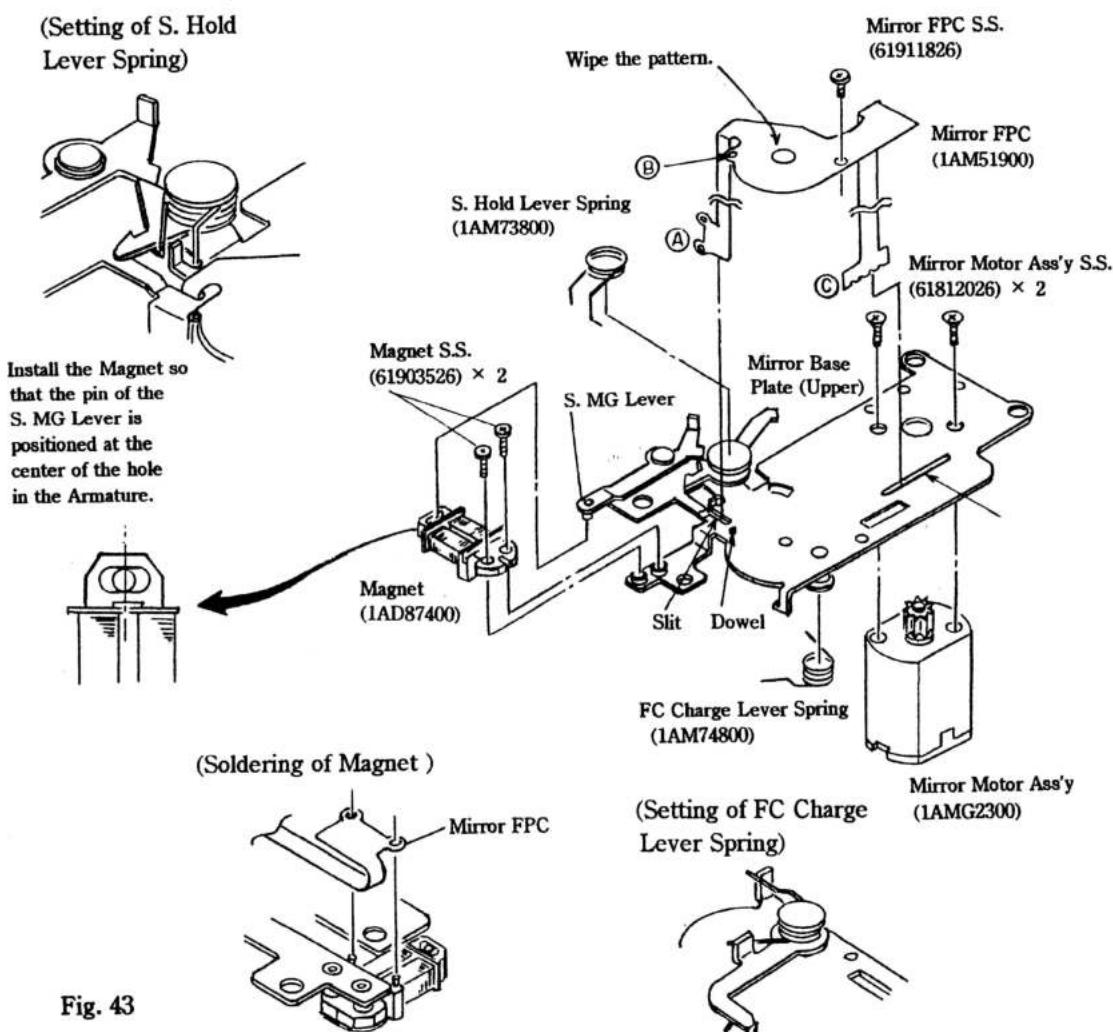
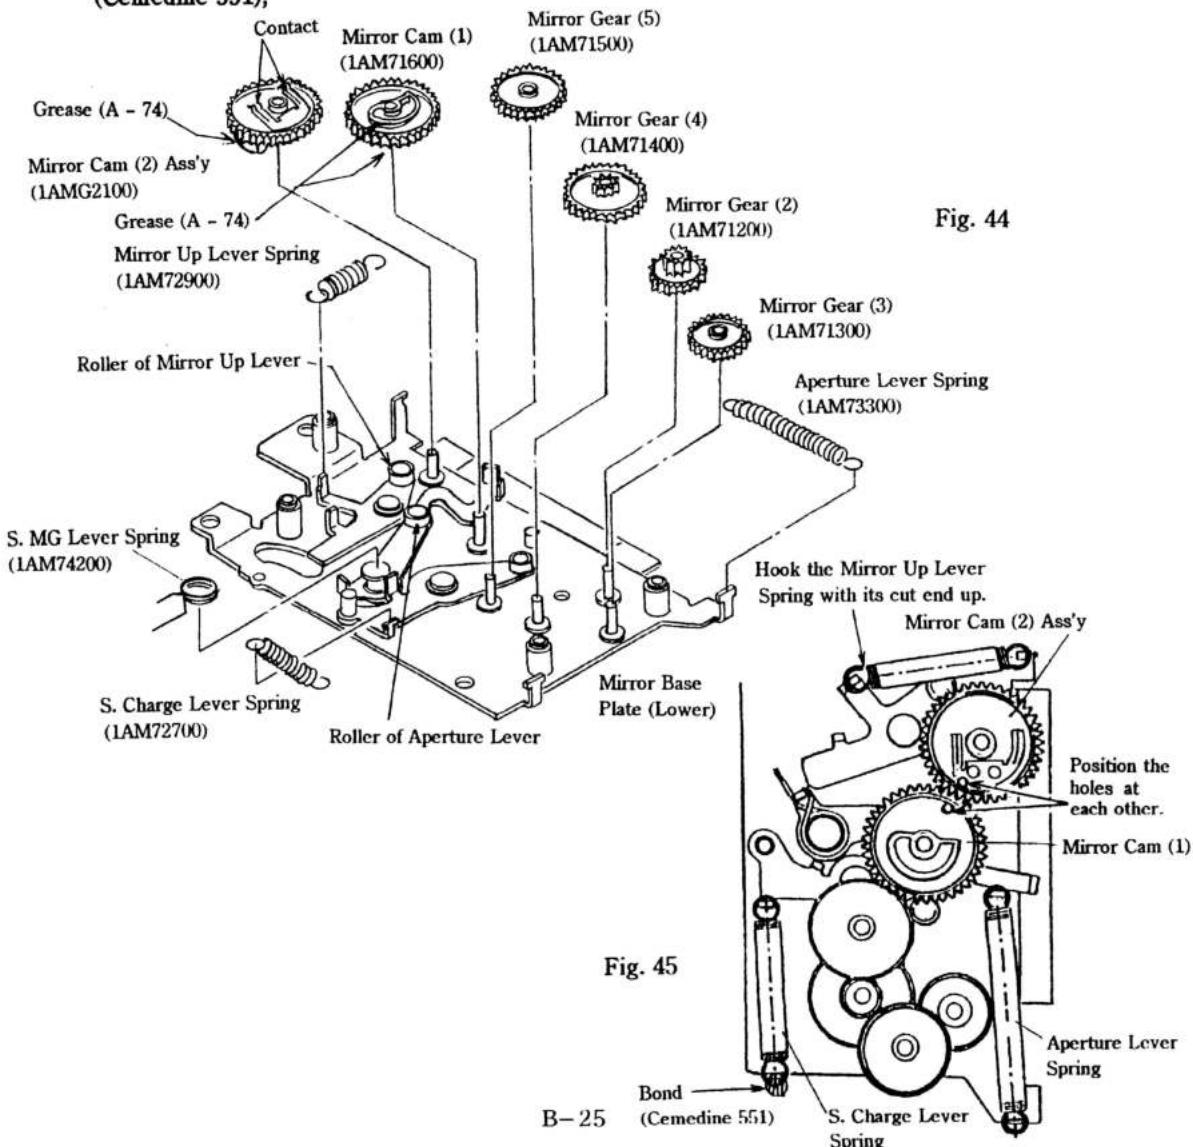

Fig. 43
Fig. 45
- 6) Bend the Ⓐ portion of the Mirror FPC as shown in Fig. 43 and solder it to the terminals of the Magnet.
- 12) Wipe the contact pattern on the Mirror FPC with lens cleaning paper with ether alcohol. (See Fig. 43)
- 13) Make certain that the contacts of the Mirror Cam (2) Ass'y are free from fatigue or deformation.
- 14) Make certain that the hole in the Mirror Cam (2) Ass'y is positioned at the hole in the Mirror Cam (1). (See Fig. 45)
- 15) Install the Mirror Base Plate (Upper) on the Mirror Base Plate (Lower) with care taken that the end of the FC Charge Lever does not come inside the cam of the Mirror Cam (1). In doing so, the S. MG Lever Spring must be positioned outside the S. MG Lever.